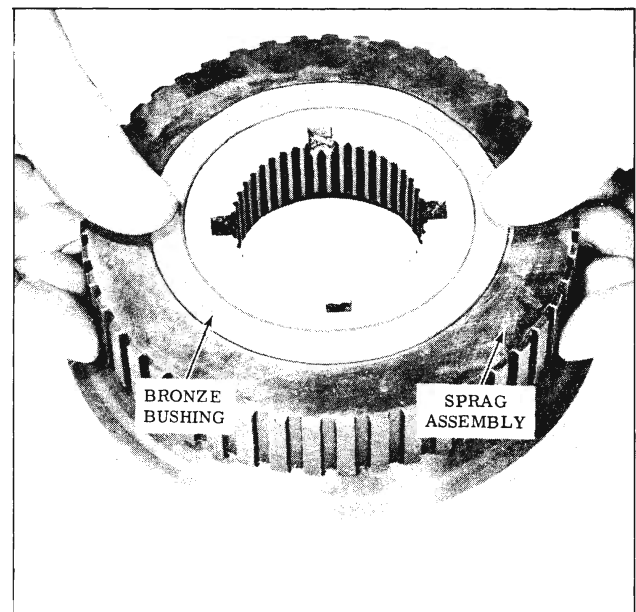

Fig. 3-82 Installing Bushing
5. Install second bronze bushing, cup side down, against sprag assembly. (Fig. 3-82)